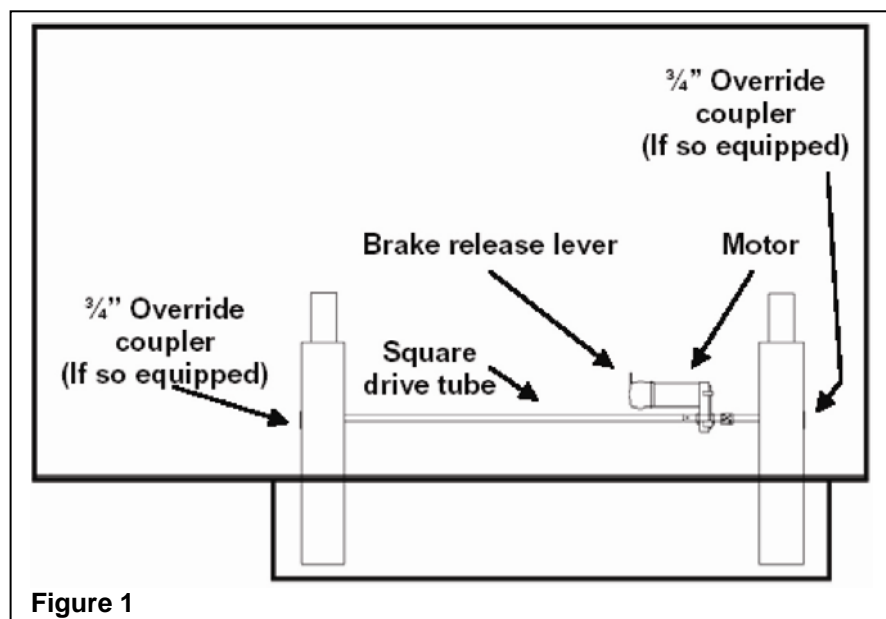

Figure 1
1. Locate the slide-out motor. The motor will be attached to the base of the system or in between the slide-out arms. Refer to Figure 1 on pg 1.
5. If the motor is located between the rails of the slide out system, the override coupling will be located on the side of the front or rear rail assembly. Refer to Figure 1.